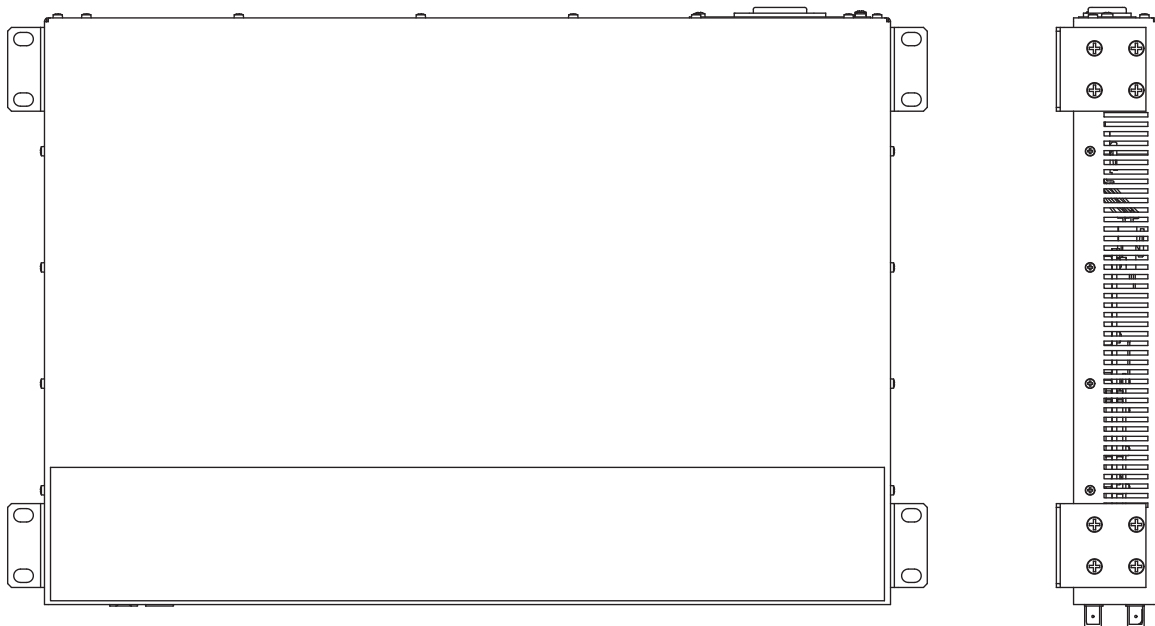

Figure 18: Vertical mounting on the wall
- Additionally attach 2 brackets to the back of the device. (see figure 18)